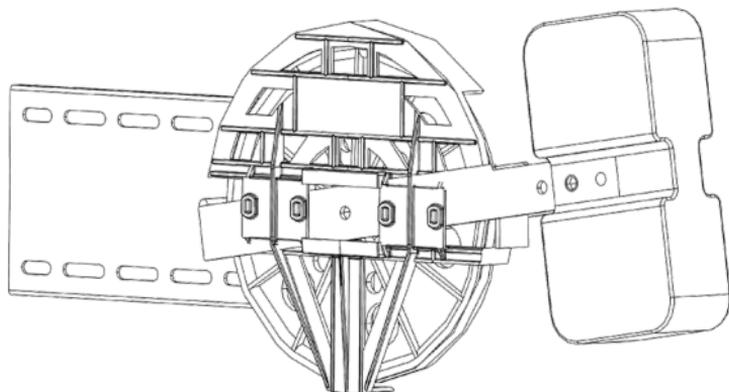

Fig. 24
- a- Cut the rope in suitable length for the pit, pass it through the tension pulley's roller. Then connect it to safety gear by using necessary connection parts. As you can see in Figure 24 hang tension pulley/ approximately 450 mm height from ground. When properly assembled, tension pulley will make an angle of about 10° upward. Lastly mount the protection of tension pulley.